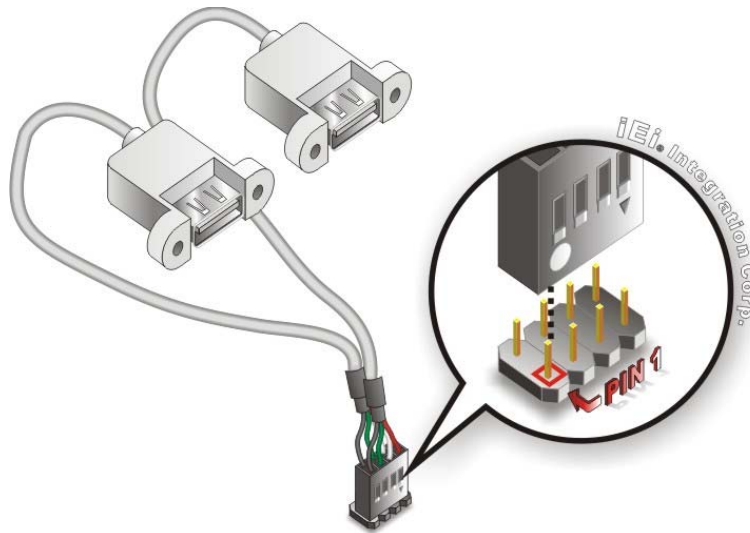

Figure 4-22: Dual-port USB Cable Connection
Step 3: Insert the cable connectors. Once the cable connector is properly aligned with the USB connector on the WAFER-ULT-i1, connect the cable connector to the on-board connector. See **Figure 4-22**.